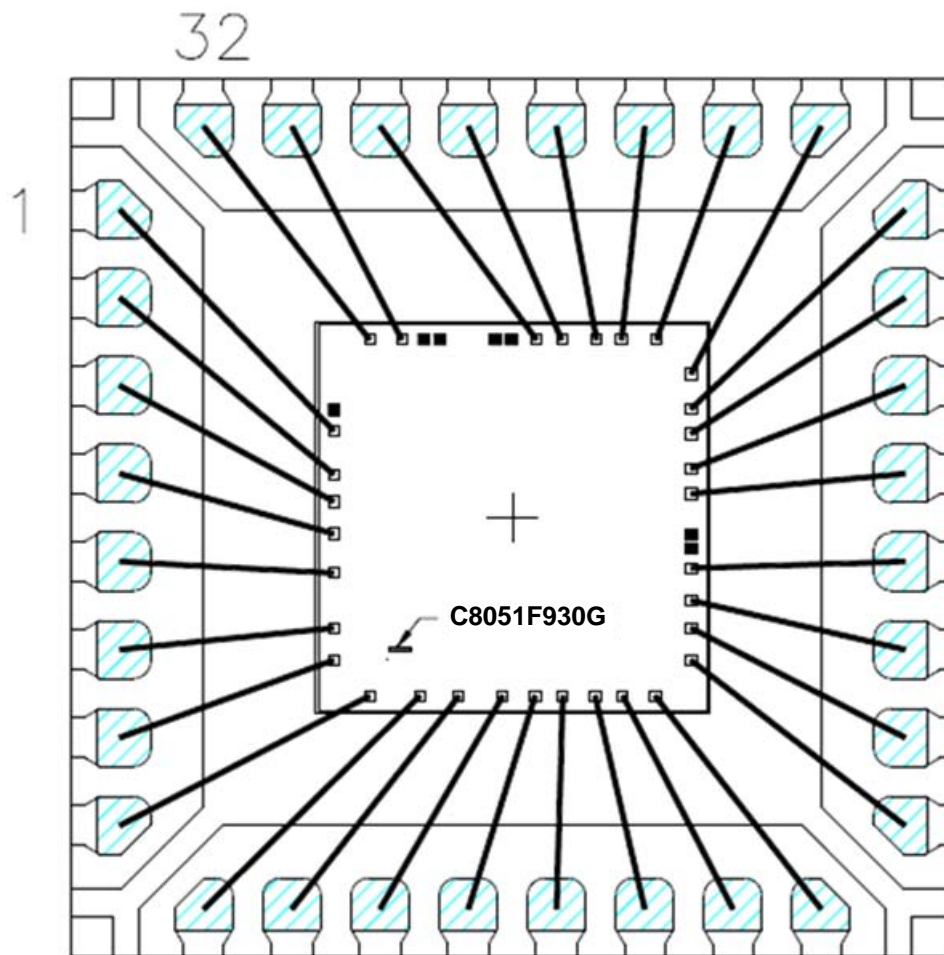

Figure 3.1. Example Die Bonding (QFN-32)
- Updated label on Figure 3.1 on page 10 to “C8051F930G”.
- Added “Failure Analysis (FA) Guidelines” on page 13.